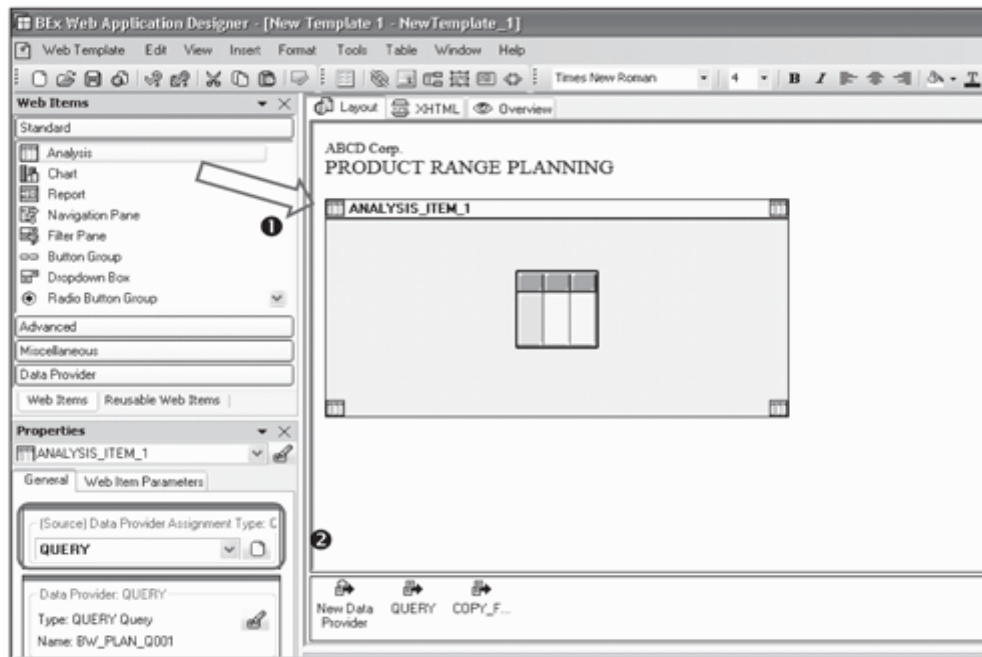

Figure 12.91 Add Analysis Web Item
- (1). Select the type of data provider as Filter (2), and assign the required filter to the data provider using the selection help (3). Click on OK to complete the data provider creation.
5. Drag and drop the Analysis web item into the web template (1 of Figure 12.91). We'll use this web item to create the manual planning layout based on the input-ready query in the application. Assign the QUERY data provider, which you created in previous steps, to the Analysis item (2).